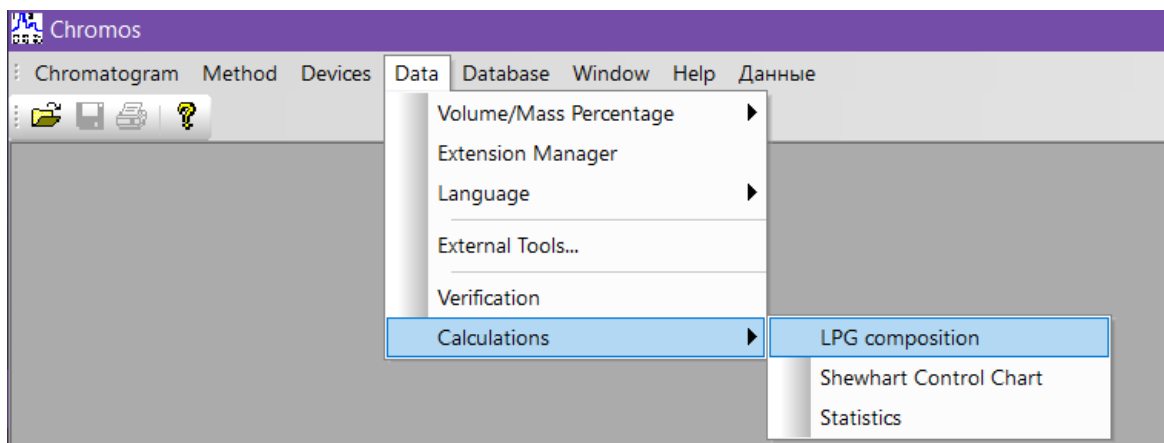
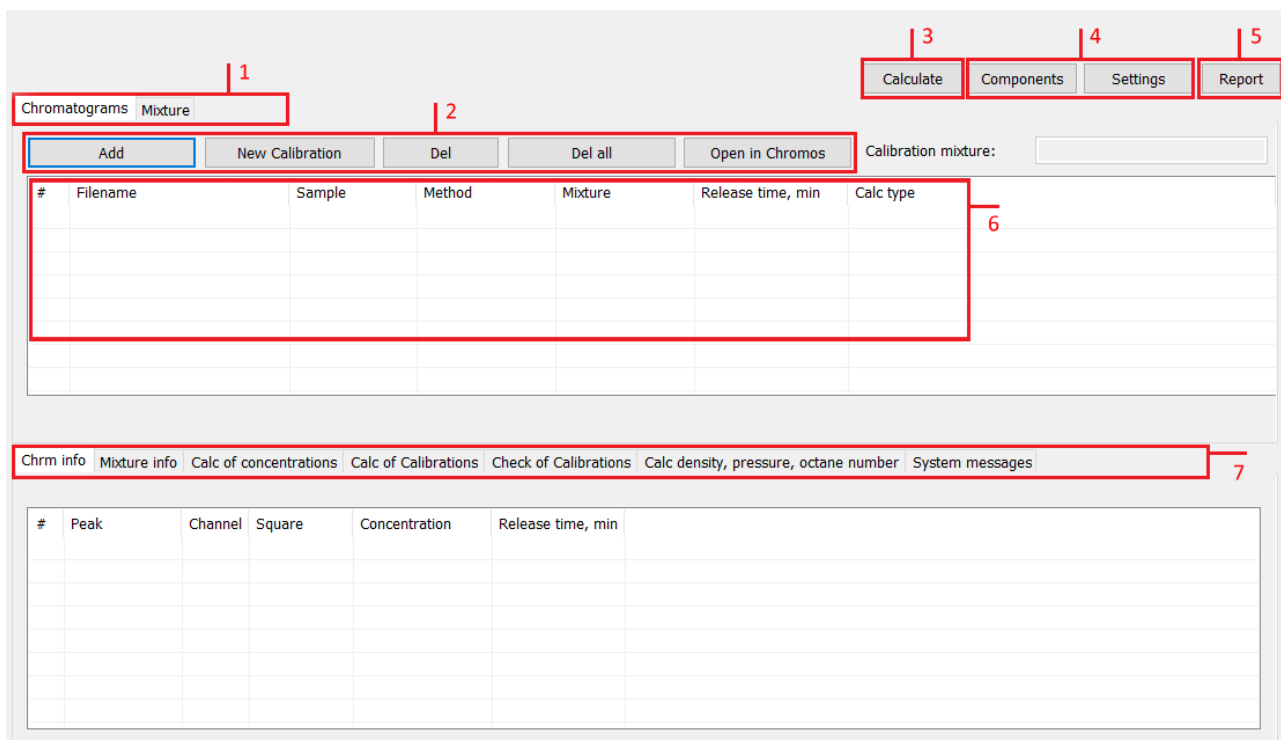

Fig. 2. Running the plug-in from Chromos SW
Fig. 3. Main program window
3. In the *Data* menu, navigate to **Calculations > LPG composition** (Fig. 2). The main program window opens (Fig. 3).
The main program window (Fig. 3) contains the following elements: